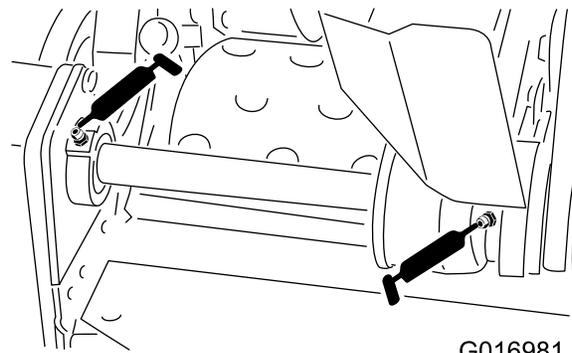

Figure 19
- 2 on the reel countershaft bearings (Figure 19)